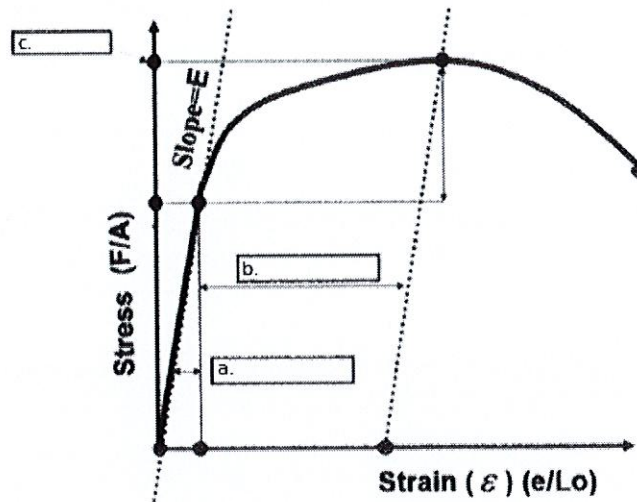

Figure 2(b) / Rajah 2(b)
- (b) The stress-strain diagram illustrates how the properties of the material are under load, which indicates the strength, stiffness, ductility, and limits of material failure. Figure 2 (b) shows a stress-strain diagram.